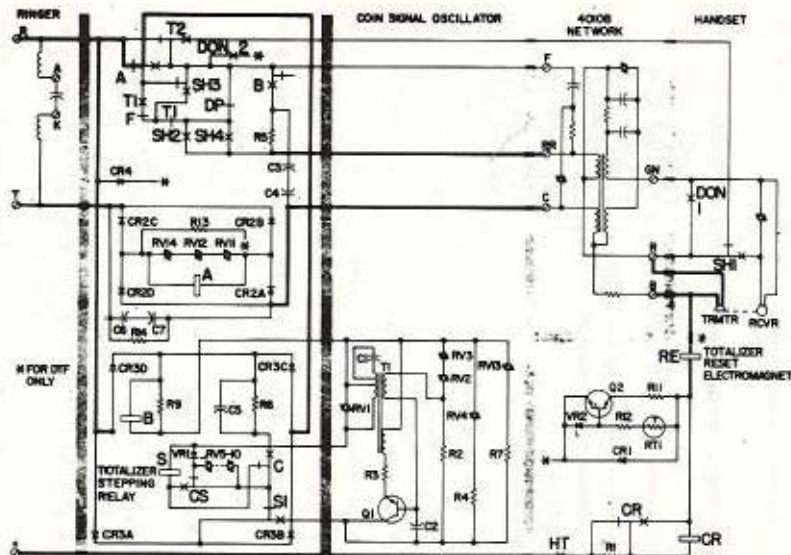

Fig. 26 - 1C1 and 2C1 Coin-First Coin Telephone Sets, Schematic
- Fig. 26 — 1C1 and 2C1 Coin-First Coin Telephone Sets, Schematic